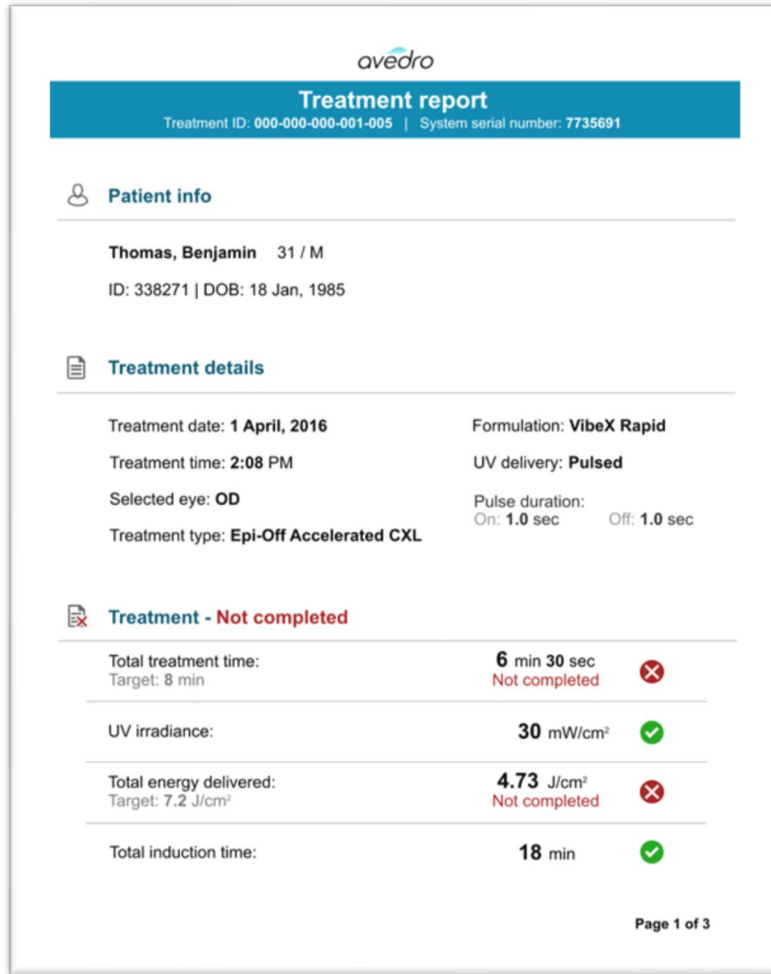

Figure 3-37. Sample Treatment Report
- A treatment report is generated containing patient information, treatment details, photos taken throughout treatment, and notes. A sample report is shown in Figure 3-37.